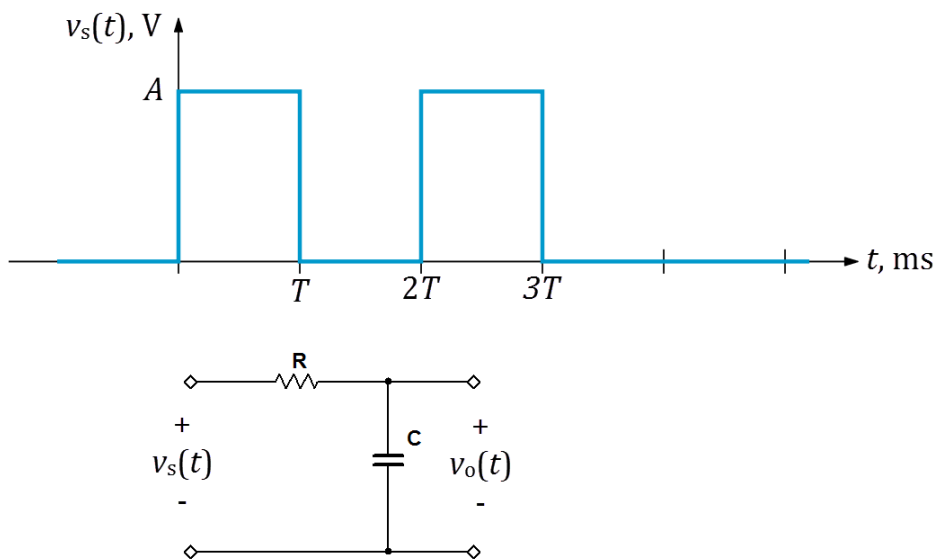

Figure 11.4: Double-pulse waveform and circuit for Problem 11.4
The circuit of Figure 11.4 is excited by the double-pulse waveform shown in the same figure.
1. Enter the circuit of Figure 11.4 using an ABM_VOLTAGE source and the component values specified in the problem statement. Build the ABM voltage source "Voltage Value" string with multiple step functions $u(\text{TIME})$. Add, subtract, and delay the step functions as needed to create the double-pulse waveform of Figure 11.4 with the parameters specified in the problem statement.
1. Build the circuit of Figure 11.4 on the previous page using the component values specified in the problem statement. Drive the circuit with the ELVISmx Arbitrary Waveform Generator on AO0. Create the double-pulse waveform of Figure 11.4 on the preceding page with the parameters specified in the problem statement. Monitor $v_s(t)$ on AI0 and $v_o(t)$ on AI1.